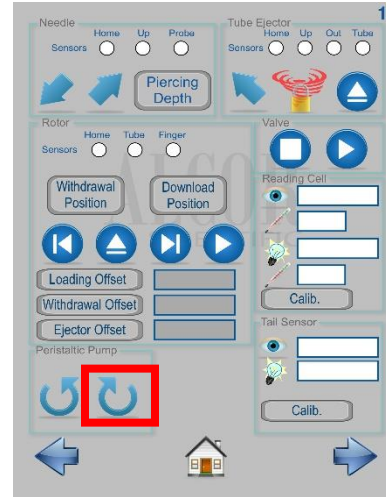

Figure 6
6. Press the Peristaltic Pump “Forward” icon shown highlighted in red in Figure 6. Press this button 8 times waiting a second between each time the button is pressed. This will withdraw the bleach from the sample tube.